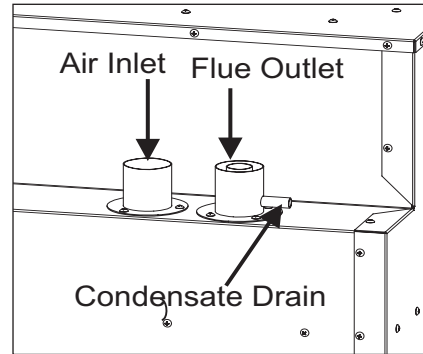

Fig 2.
4. Connect the condensate tube provided with the heater to the condensate drain (Fig 2). Clamp in place with the hose clamp provided. Feed the tube through the condensate hole on the LHS of the weatherbox.